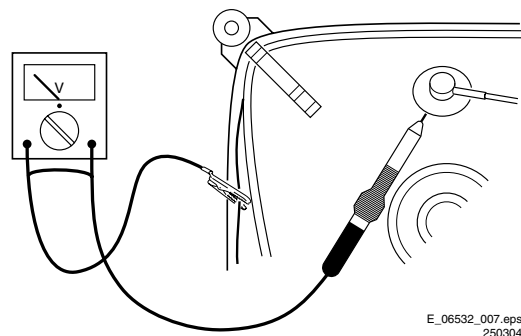

Figure 2-1 Discharge picture tube
- In order to prevent damage to ICs and transistors, avoid all high voltage flashovers. In order to prevent damage to the picture tube, use the method shown in Fig. 2-1, to discharge the picture tube. Use a high voltage probe and a multi-meter (position V_{DC}). Discharge until the meter reading is 0 V (after approx. 30 s).